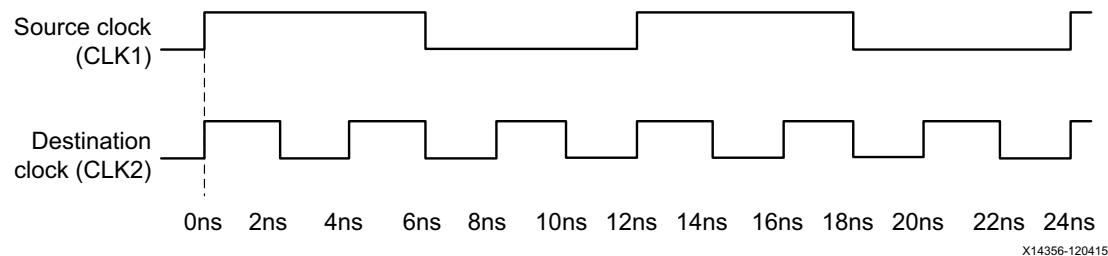

Figure 5-16:
- A clock enable signal on the receiving registers allows a Multicycle constraint to be set between both clocks. See Figure 5-16.